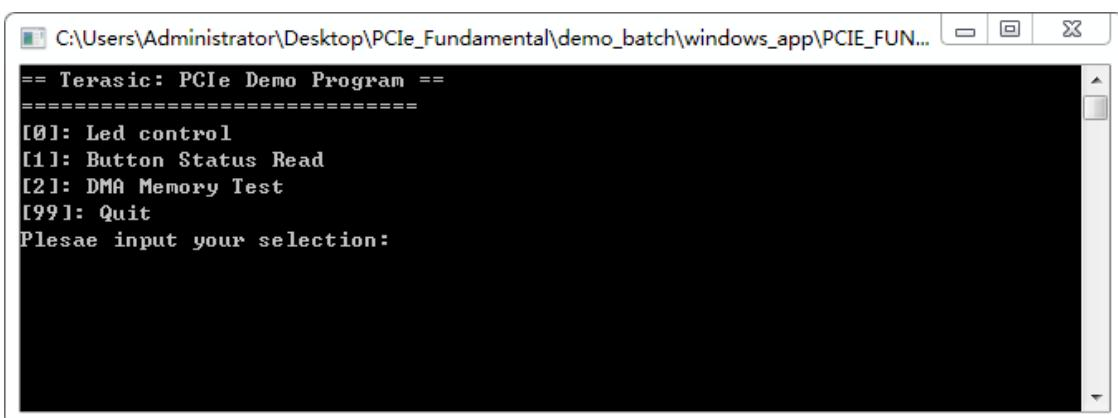

Figure 7-12 Screenshot of Program Menu
6. Goto windows_app folder, execute PCIE_FUNDMENTAL.exe. A menu will appear as shown in **Figure 7-12**.